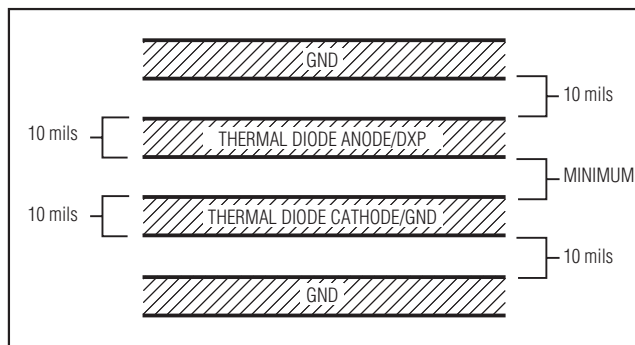

Figure 4. Recommended DXP PC Traces
- 4) Route the thermal diode traces in parallel and in close proximity to each other, away from any higher voltage traces, such as +12VDC. Leakage currents from PCB contamination must be dealt with carefully since a 20MΩ leakage path from DXP to ground causes about +1°C error. If high-voltage traces are unavoidable, connect guard traces to GND on either side of the DXP trace (Figure 4).
- 7) Use wide traces. Narrow traces are more inductive and tend to pick up radiated noise. The 10-mil widths and spacing recommended in Figure 4 are not absolutely necessary, as they offer only a minor improvement in leakage and noise over narrow traces. Use wider traces when practical.